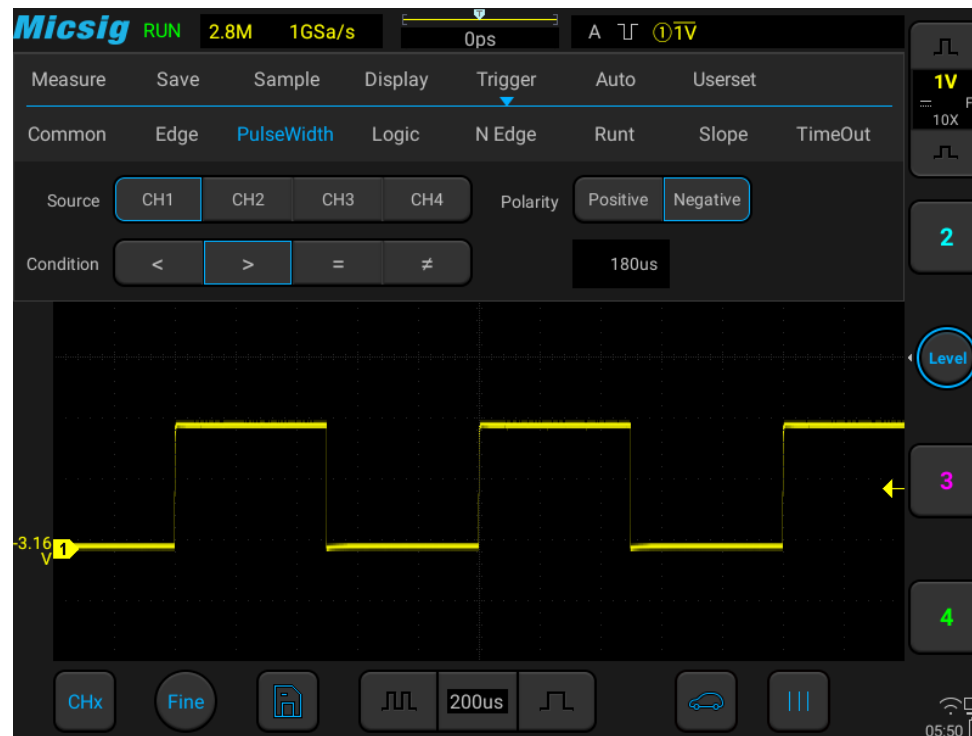

Figure 7-15 Negative Polarity Pulse Level Flip
lower than current trigger level (CH1 negative pulse indication icon $\text{⏏} \text{① } 1.00\text{V}$). When triggered on positive polarity pulse, if the restrictions are true, the trigger will happen on the high-to-low transition of the pulse; when triggered on negative polarity pulse, if the restrictions are true, the trigger will happen on the low-to-high transition. (Figure 7-15 Negative Pulse Level Flip)